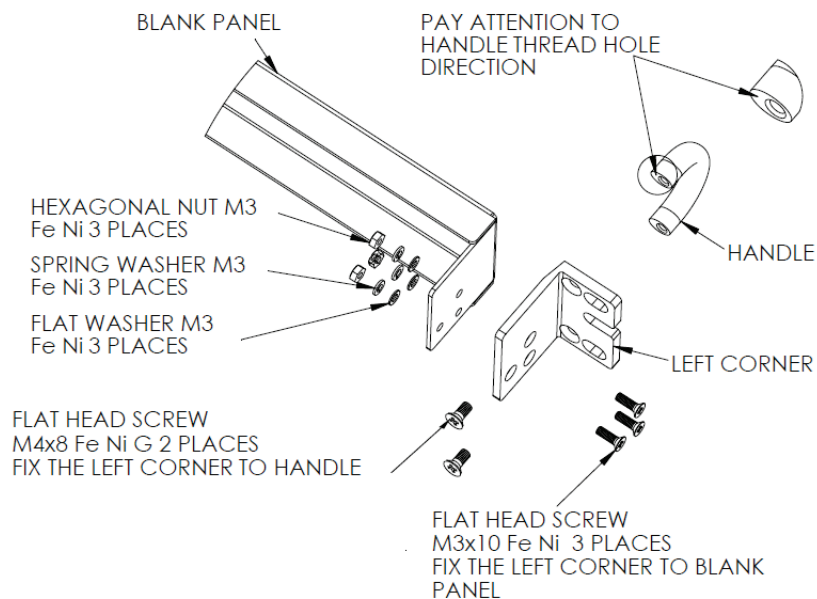

Figure 4-2: Left Corner Assembly to Blank Panel
1. Fix handle to left corner, then fix the left corner to the blank panel as shown in Figure 4-2.